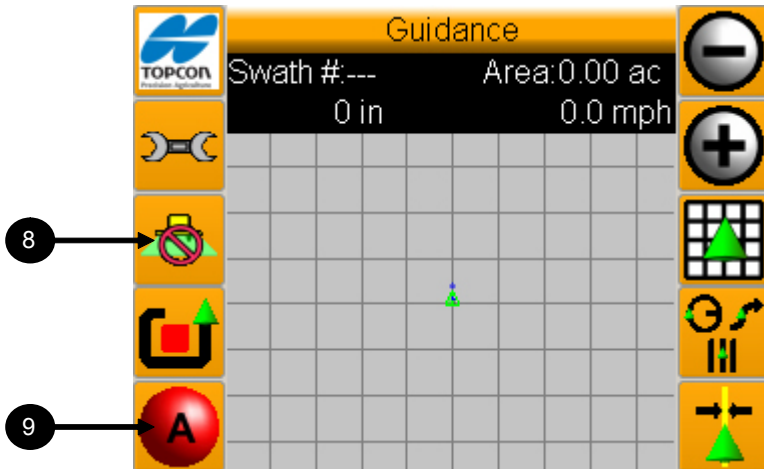

Figure 10-14. Start Coverage mapping
8. Select  to turn on coverage mapping (figure 10-14).